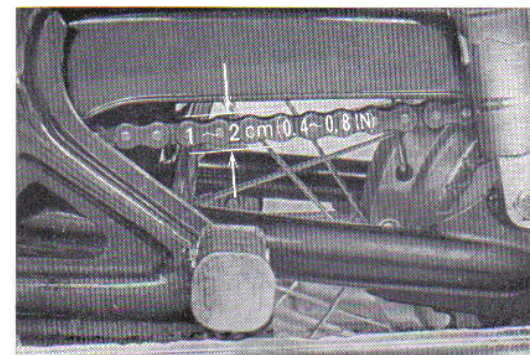

Fig. 6.35 Drive chain slackness
- The maximum slackness when measured by moving the drive chain vertically is 1 to 2 cm (0.4~0.8 in). (Fig. 6.35)